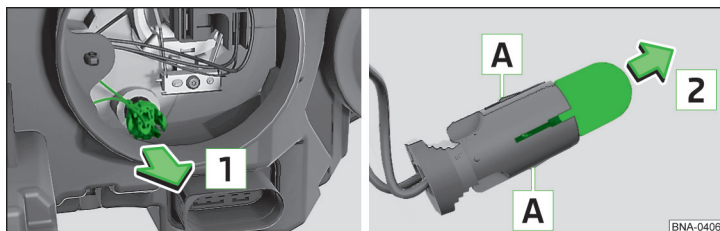

Fig. 109 Change the light bulb for the parking light
- Remove the pedestal with the bulb by jiggling it out in the direction of arrow **1** » fig. 109.